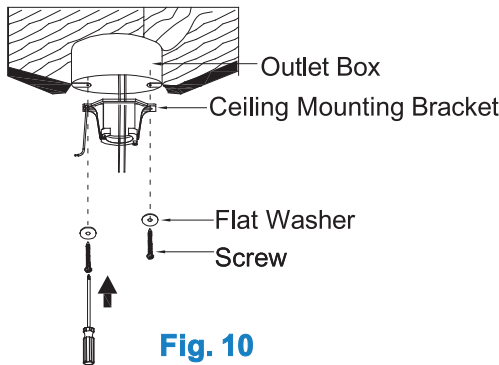

Fig. 10
Step 1. Before attaching fan to outlet box (not included), ensure the outlet box is securely fastened to at least two points to a structural ceiling member (a loose box will cause the fan to wobble). Pass the 120 volt supply wires from the ceiling outlet box through the center of the ceiling mounting bracket. Install mounting bracket to outlet box in ceiling using the screws and washers included with the outlet box (Fig. 10)